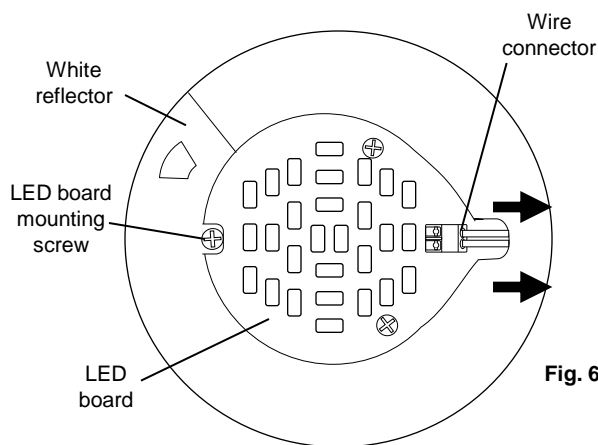

Fig. 6
5. Detach wire connector from LED board. (Fig. 6)
7. Insert the output wires and wire connector of the new LED driver into the heat sink hole and push them into the LED board compartment. Connect the wire connector to the LED board. (Fig. 6)